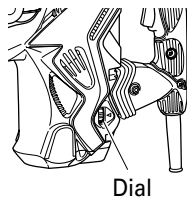

Fig. 3
- (3) Pull the tool to make sure it is locked completely.
- (4) To remove the tool, fully pull the grip in the direction of the arrow and pull out the tool.
7. Regulating the number of rotations and hammering (Fig. 3)